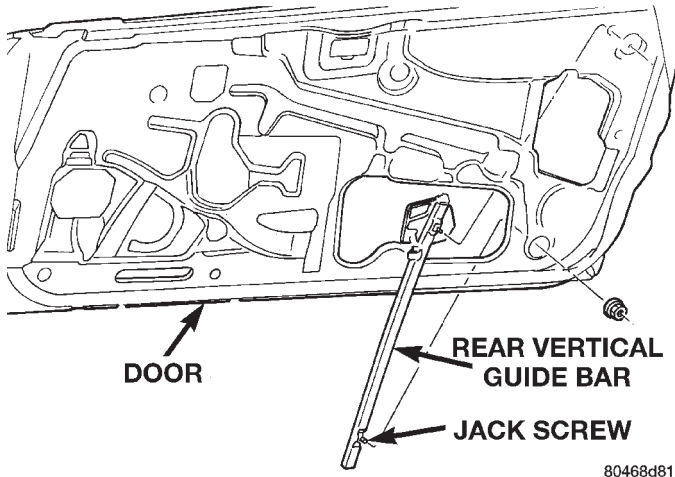

Fig. 21 Rear Vertical Guide Bar
- (1) Remove door trim panel and watershield.
- (2) Remove nut holding top of guide bar to inner door panel.
- (3) Using a suitable allen-wrench, hold jack screw stationary while removing nut holding bottom of guide bar to inner door panel.
- (4) Separate guide bar from vehicle and remove through access hole in inner door panel (Fig. 21).